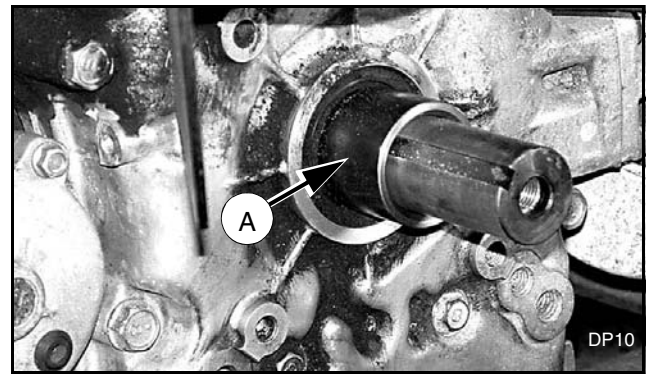

Figure 16. Clutch Spacer Installed
1. Install clutch spacer (A) over engine shaft with the chamfer side towards the engine. See Figure 16.